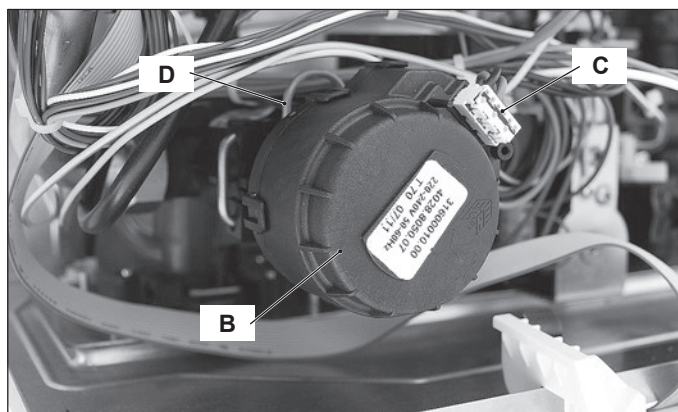

Figure 9.4
- 2 Disconnect the connectors C (Figure 9.4).